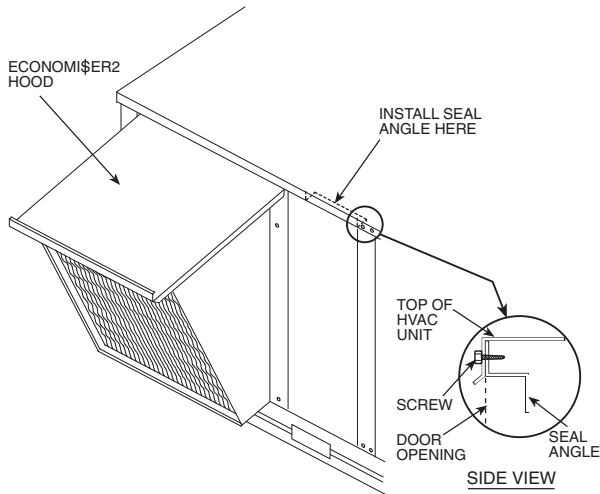

Fig. 1 — Install Seal Angle (3 to 8-1/2 ton R-22 Units and 3 to 7-1/2 Ton R-410A Units)
1. Locate the angle seal and install it inside the door opening, along the top edge of the rooftop unit, using the screws provided. When properly installed, the seal angle should be flush with the door opening on the side furthest from the hood; there will be a gap on the side closest to the hood assembly. (See Fig. 1.)